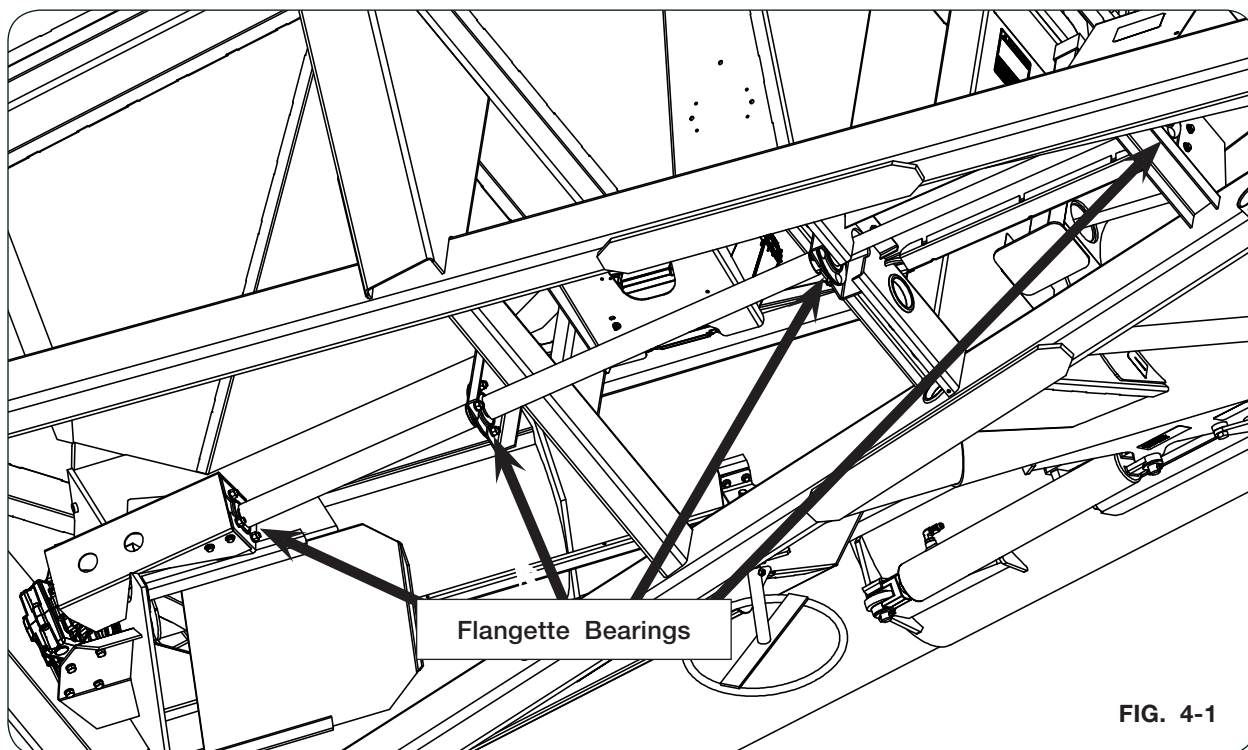

FIG. 4-1
2. Loosen the setscrews (9399-209) on all flangette bearings (92916) (Fig. 4-1).